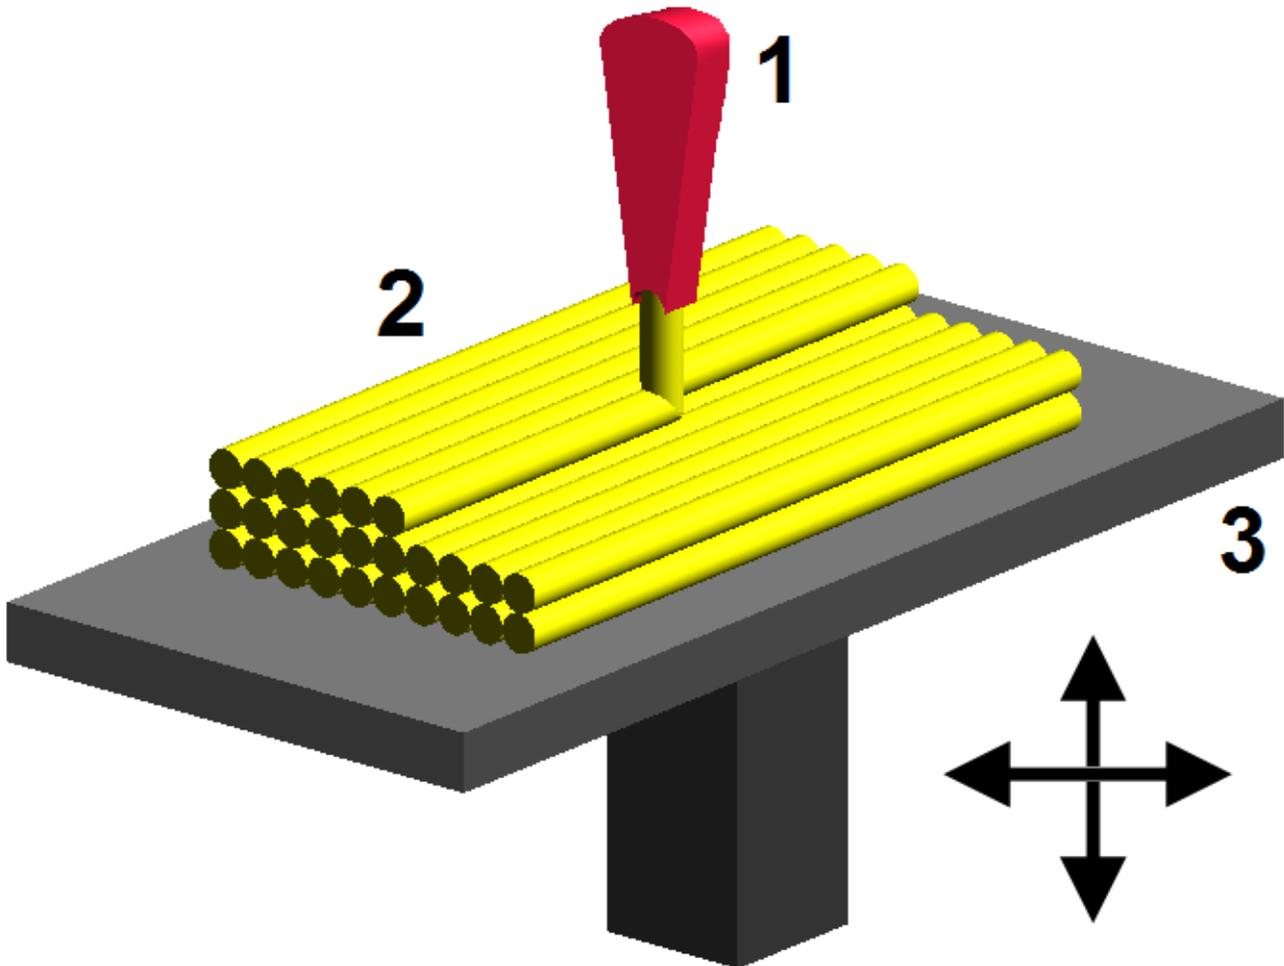

Figure 2. How FDM Printing Works (Source: Wikimedia.com)
- Fused deposition modeling (FDM).** This is the method that people are most familiar with; it's what many off-the-shelf printers employ. I often call it the “hot-glue gun approach,” as the 3-D printer is essentially acting as a very precise hot-glue gun. The reference design mentioned earlier is based on an FDM printer, and an example system diagram is available here. In this method (example of how it works shown in Figure 2), a material (often a thermoplastic) is taken and extruded through a heated nozzle onto a flat surface, where the material then cools and hardens again. The nozzle has the ability to move in the X, Y and Z directions, allowing for the creation of a 3-D object. Many different types of materials are used, but the most popular are thermoplastics such as acrylonitrile butadiene styrene (ABS) and polylactic acid (PLA).